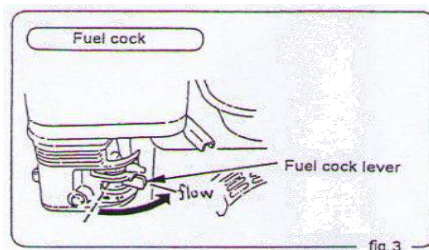

fig. 3
1. Align fuel cock lever with FLOW position (Fig.3)